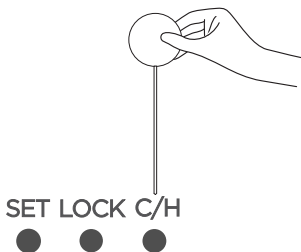

Figure 3.18
1) In Cooling Only mode, press  to turn on the Cooling and Heating function. (see Figure 3.18)